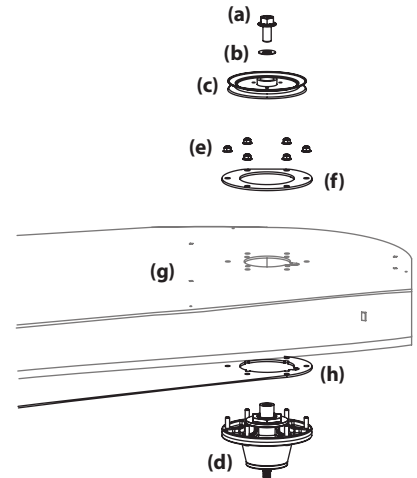

Figure 4-25
6. Remove the hex flange bolts (a) and flat washers (b) securing the left and right spindle pulleys (c) to the spindle assembly (d). See Figure 4-25.
7. Remove the six (6) flange lock nuts (e) securing the left and right spindle assemblies (d) and the support plates (f) to the deck shell (g). See Figure 4-25.
10. Reverse the process to install the spindle assembly. When installing the new spindle assembly be sure to install the hardware exactly as shown in Figure 4-25. Torque the hex flange bolts to 250 ft-lbs. and the flange lock nuts to 21-32 ft-lbs.